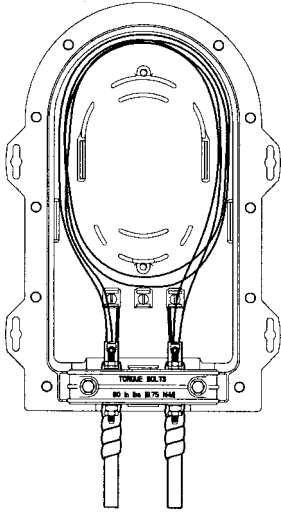

FIGURE 20 - STORING “EXPRESSED” BUFFER TUBES
8.01 Buffer tubes to be “expressed” through the closure should be coiled and laid within the storage channel outside of the curved walls. (Figure 20)